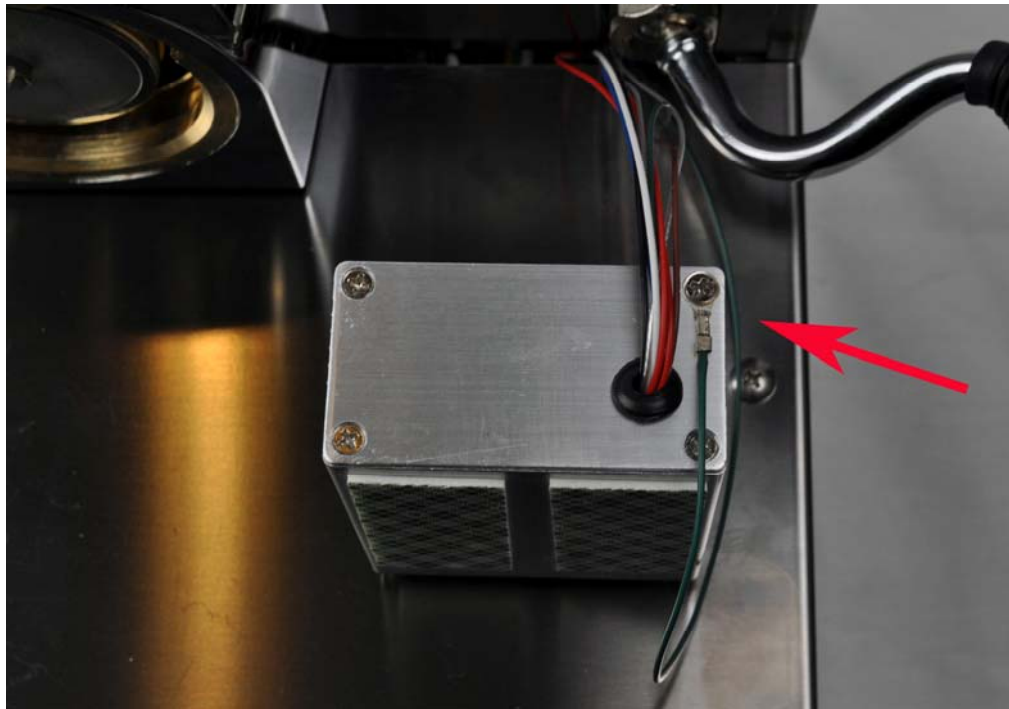

Figure 29. Back view of the controller box. Red arrow indicated ground wire location.
- 6) Install the controller to the box. Screw the front panel first. Make sure the surface of the box with double sided tape is on top of the controller. Then, gently pull out the cable from the back panel of the box until it is stopped by strain relief. Screw on the back panel. Make sure the rubber grommet is on the upper left corner (viewing from back). Mount the controller box ground wire to the lower left screw as shown in Figure 29.